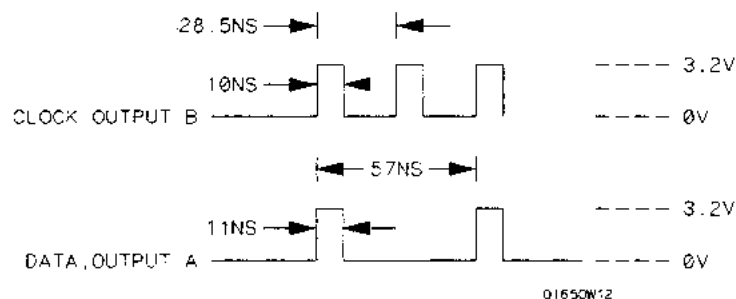

Figure 3-17. Waveform for Data Test 3
2. Adjust the pulse generator for the outputs in figure 3-17.